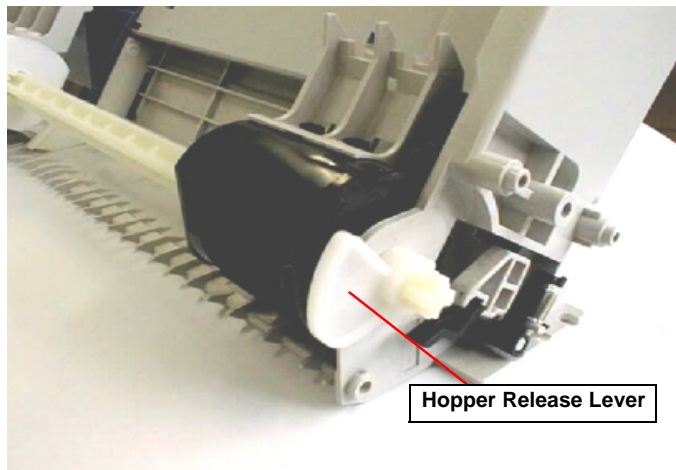

Figure 4-29. Assembling the LD Hopper Release Lever
- Be careful of the direction of the Hopper Release Lever when installing it. Refer to Figure 4-29.